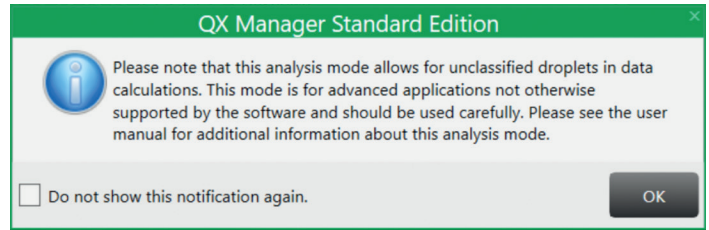

Fig. 5. Advanced classification warning.
5. Click **Apply** to save the settings. Click **OK** to close the pop-up shown in Figure 5.